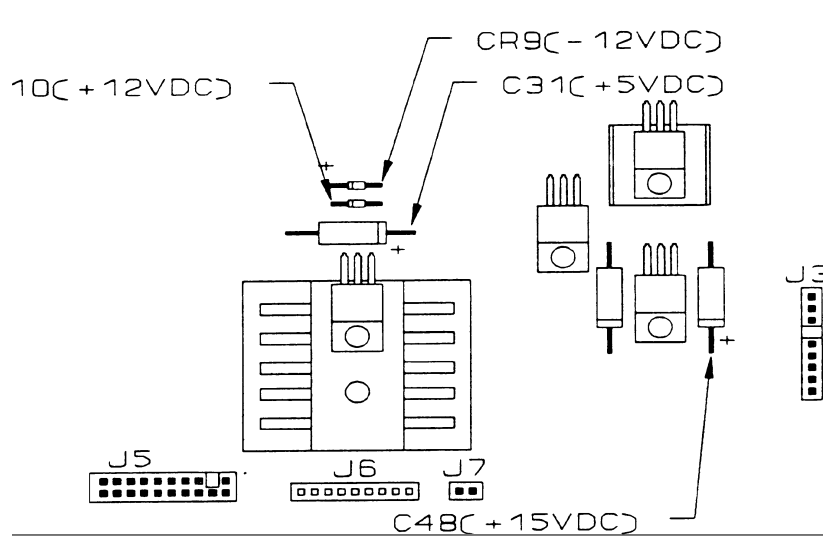

Figure 7-1: Main PCB DC Voltage Checks
*All DC voltages listed are referenced to chassis ground (minus meter lead to chassis ground). Refer to Figure 6-1 in Section 6.1.1. for connector locations, Figures 7-1 and 7-2 for component locations.
- 3 - **+5 VDC:** Regulated control logic supply, (plus side of capacitor C31, Figure 7-1).
- 5 - **+15 VDC:** Analog circuitry supply, (plus side of capacitor C48, Figure 7-1).
- 8 - **+12 VDC:** JN Port RS-232 Supply, (plus side of diode CR10, Figure 7-1).
- 9 - **-12 VDC:** JN Port RS-232 Supply, (minus side of diode CR9, Figure 7-1).
- 10 - **+39 VDC:** Display Voltage, single display versions only, (A5 pin 10, Figure 7-1).
- 6 - **+12 VDC:** JW and JY Port RS-232 Supply, (Q7 pin 2, Figure 7-1).